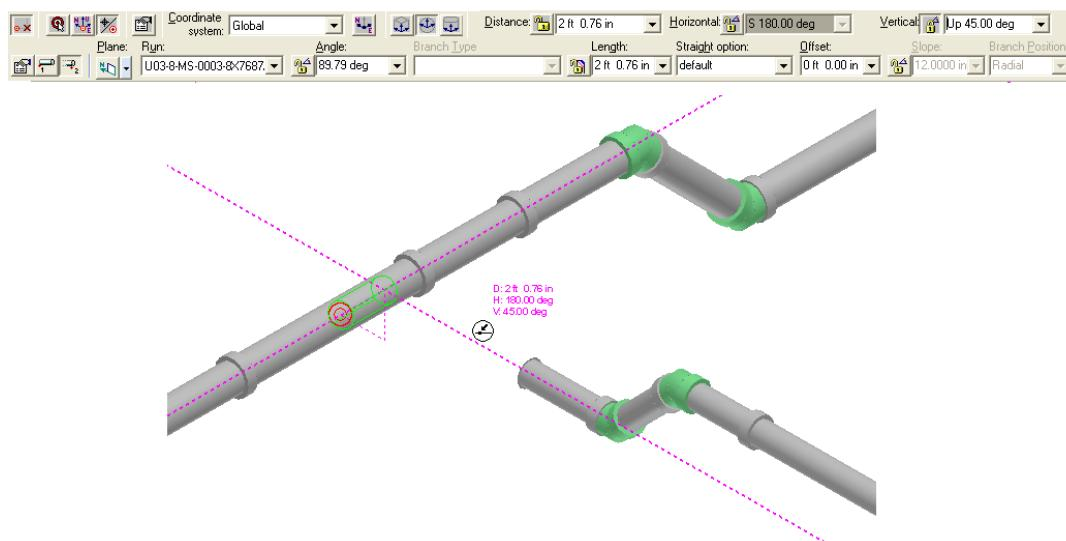

Figure 32: SmartSketch Indicator Showing the Intersection Point
60. Move the cursor to the small sloped pipe to add it to the SmartSketch stack and locate the projection line until the SmartSketch indicator displays the point on curve glyph. This glyph indicates that you found the intersection point between the sloped pipe and the constraints (45 deg Up) created by the PinPoint, as placed in Figure 32.